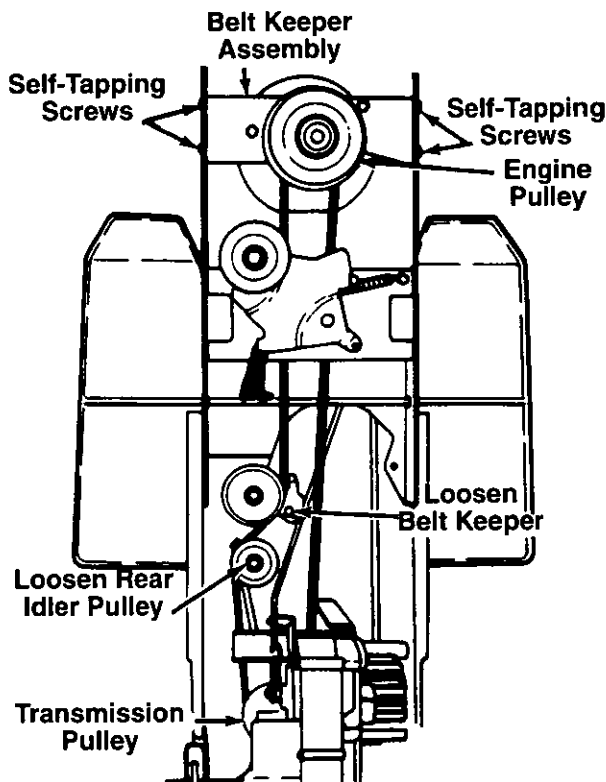

FIGURE 26.
## DRIVE BELT (See figure 26)
4. Remove the four self-tapping screws which hold the belt keeper assembly to the frame at the engine pulley. Push the belt keeper assembly forward, out of the way. See figure 26.